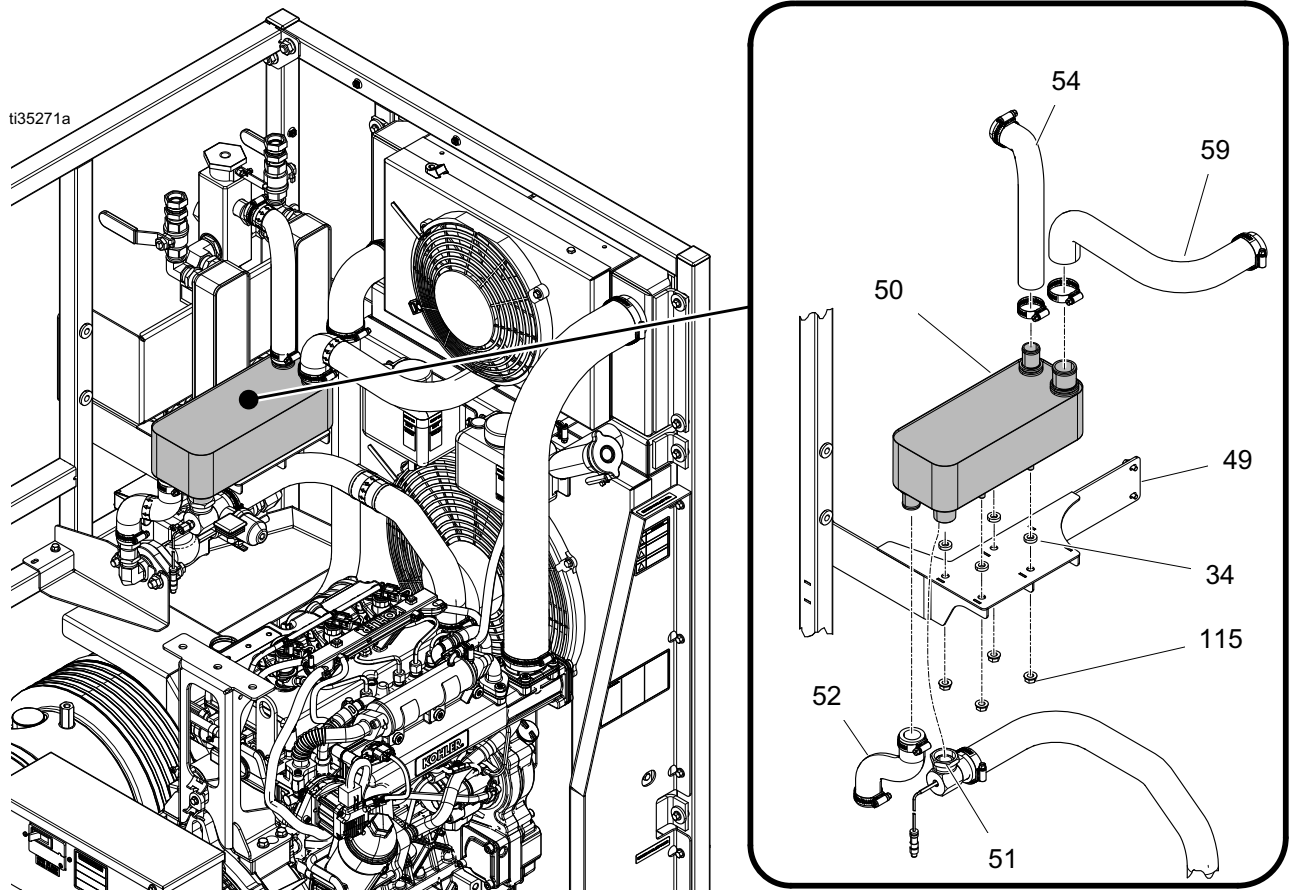

**FIG. 11: Replace Single-Sided Heat Exchangers**
**NOTE:** Refer to FIG. 11 to replace the HX-A and HX-B single-sided heat exchangers (35).